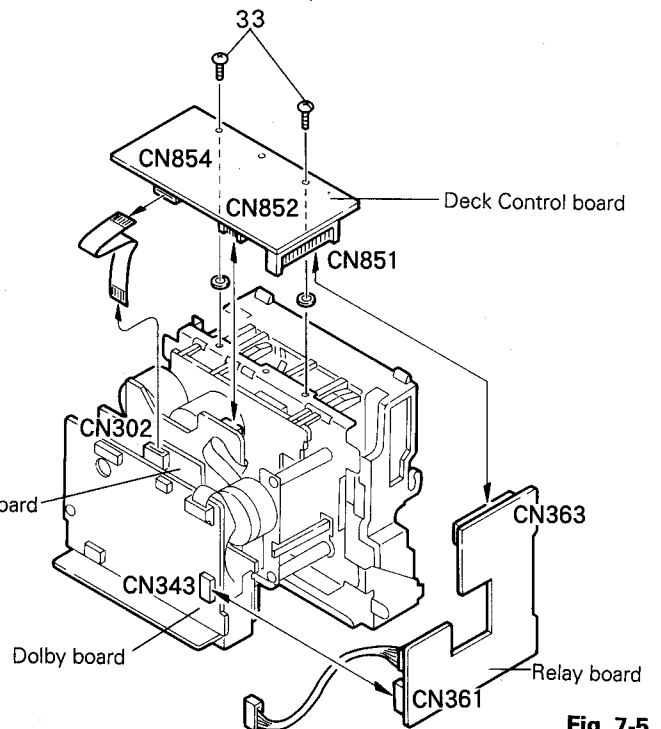

Fig. 7-5
■ Deck Control board and Relay board (Fig. 7-5)
1. Remove two screws (33) retaining the Deck Control board.